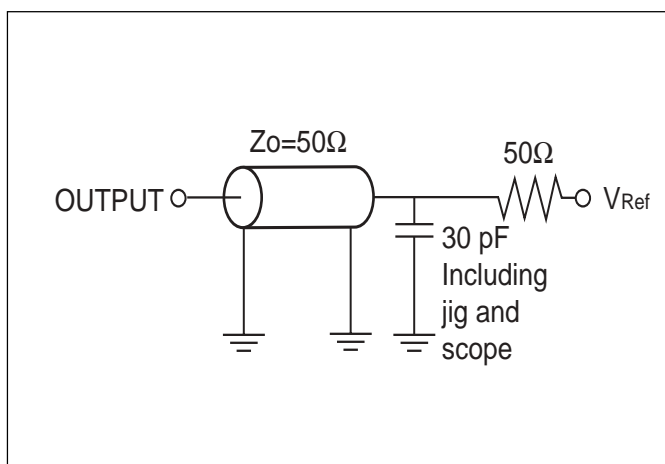

Figure 1a.
Output Load	See Figures 1a and 1b
1. Test conditions assume signal transition times of 3ns or less, timing reference levels of 1.25V, input pulse levels of 0.4V to  $V_{DD}-0.3V$  and output loading specified in Figure 1a.